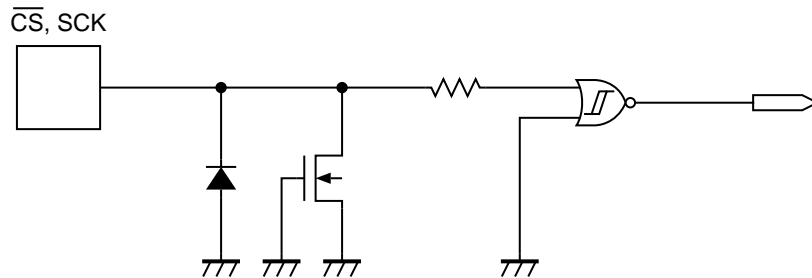

Figure 23  $\overline{\text{CS}}$ , SCK Pin
**Figure 23** and **24** show the equivalent circuits of input pins in the S-25C080A. A pull-up and pull-down elements are not included in each input pin, pay attention not to set it in the floating state when you design.